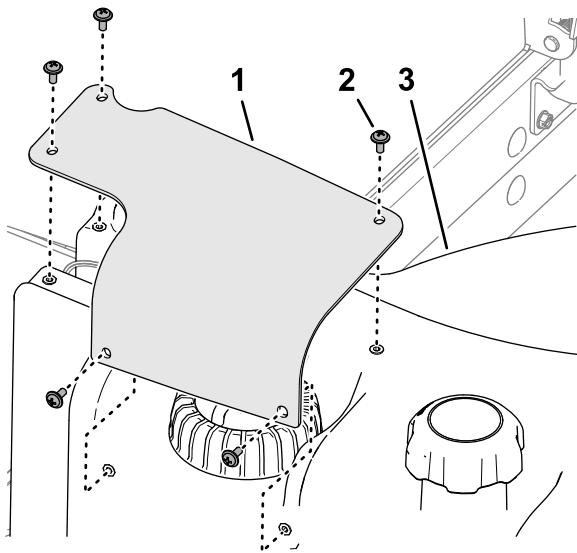

Figure 93
7. Align the holes in the fuel-sender cover with the holes in the fuel tank, and secure the cover to the tank with the 5 Phillips-head screws (Figure 93).